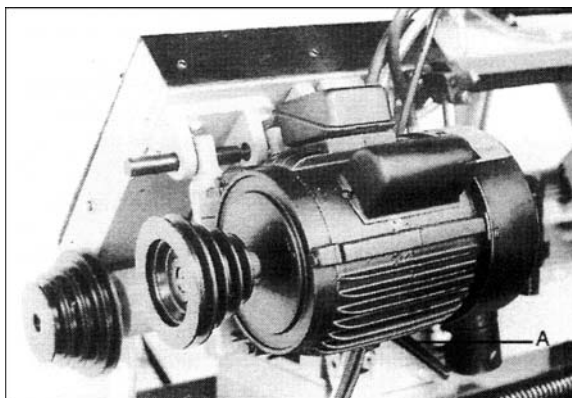

Figure 6
3. Support motor with one hand while loosening lock handle (A, Figure 6). Lower motor gently.